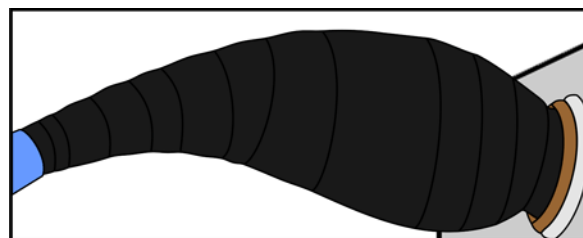

Figure 15: Polyphaser Sealing
- 7 The wrapping direction should be in parallel to the connector bolt closing direction. See Figure 15 for the final result.